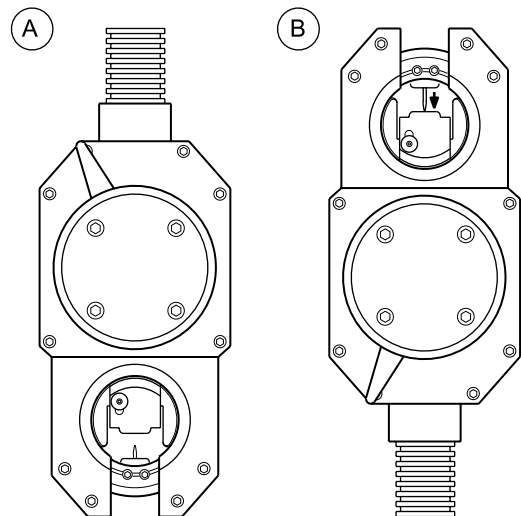

Figure 10 Setting the Arc Gap
2. Insert the arc gap gage into the rotor. See Figure 10(A).
3. Tilt the weld head upward. Loosen the electrode screw allowing the electrode to drop onto the gage surface. See Figure 10(B).